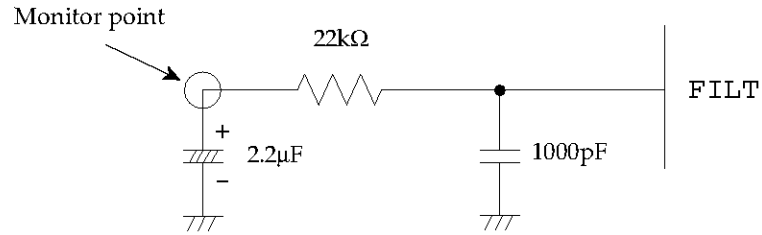

Figure 10 FILT Recommended Circuit
- Adjust the voltage of monitor point in Figure 10 to  $1/2V_{\text{DD}} \pm 10\%$  by the LC oscillation constant 'L' or 'C' to lock the PLL circuit.